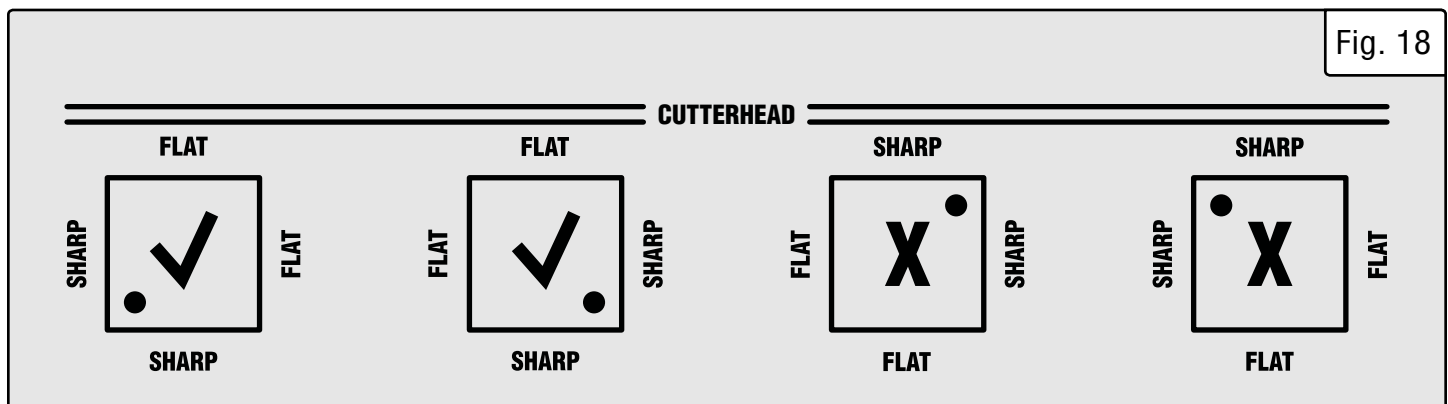

Fig. 18
NOTE: Blades are only sharp on two edges. Make sure that the edge facing the infeed table has a sharp cutting edge. Refer to Fig. 18 for more detail.
4. Rotate or replace the blade to the desired position. Be sure to note the position of the small dot to ensure the blade is being installed with a new sharp edge (Fig. 18).